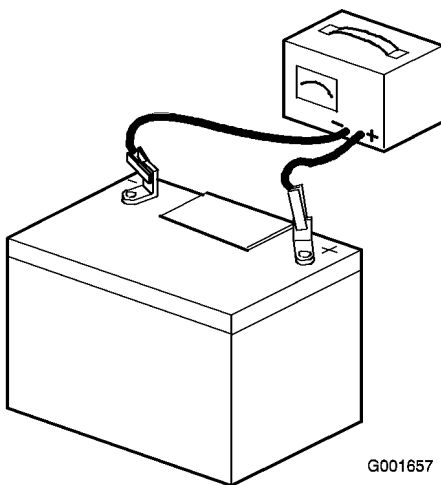

Figure 37
2. When the battery is fully charged, unplug the charger from the electrical outlet, then disconnect the charger leads from the battery posts (Figure 37).